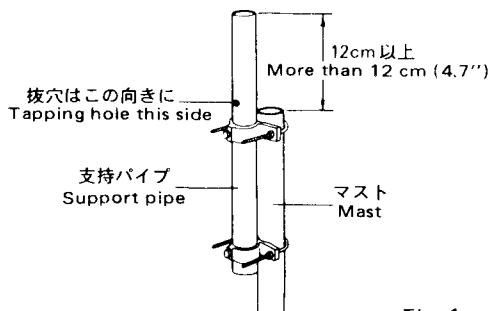

Fig. 1
- 1 Attach support pipe to a suitable mast with brackets accompanied as shown in Fig. 1. Tapping hole in support pipe should be placed above brackets and it should be turned outside against the mast. The top end of support pipe should be set more than 12 cm (4.7") above the top end of the mast as shown in Fig. 1.